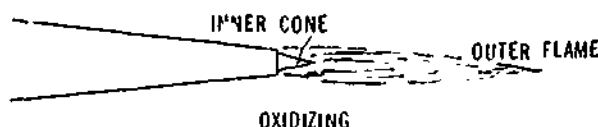

Figure 8-38. Oxidizing Oxy-Acetylene Flame
**Oxidizing Flame** The oxidizing flame (Figure 8-38) is the least used of the three flames and is characterized by: